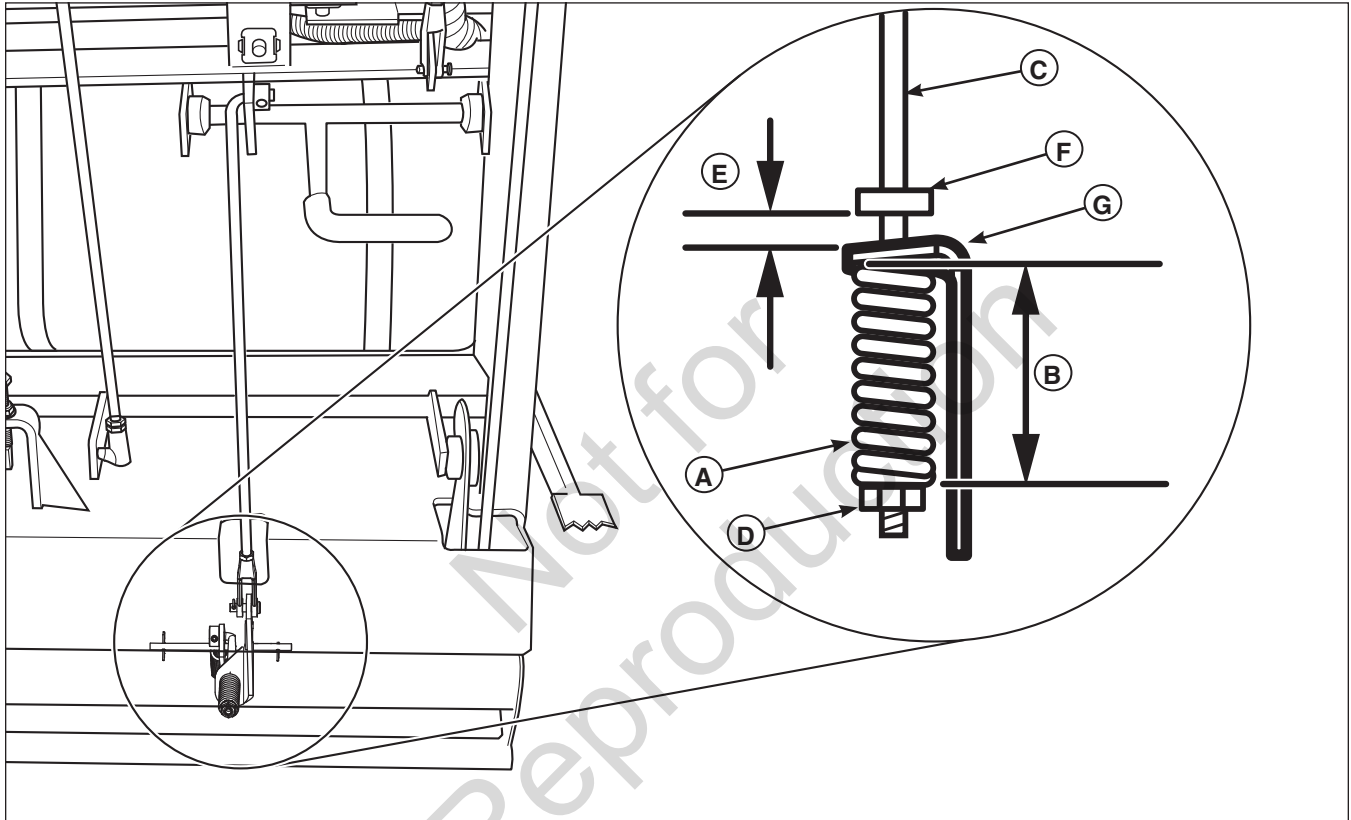

Figure 27. Parking Brake Adjustment
2. Locate the brake spring (A, Figure 27) underneath the rear of the machine.
3. With the parking brake engaged, measure the compressed spring length of the brake spring. The spring should be 2-3/8" (6,03 cm) when compressed. If not, position the lock nut (D) until the measurement equals 2-3/8" (6,03 cm).
4. Measure the distance between the back of the brake pivot link (G) and the front edge of the set collar (F). The measurement should be 1/8" (0,32 cm). If not, position the set collar until the measurement equals 1/8" (0,32 cm).